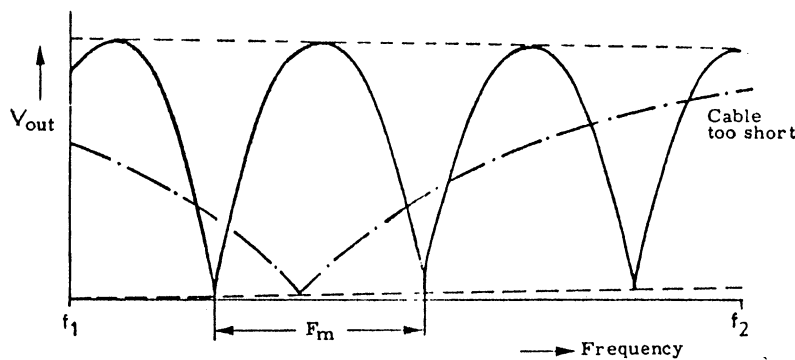

Fig. 2-2 Display on screen
2.4.9, measuring the magnitude of reflection coefficient); as the deflection voltage is synchronous with the sweep voltage, a stationary pattern is displayed on the screen (Fig. 2-2). The extreme values of V_{out} are no longer fully attained with increasing frequency, because of the cable losses. The distance F_m between two minima (maxima) depends only on the cable length L or echo delay t_e and is therefore constant:
The extension cable must be long enough for at least two voltage maxima or minima to be displayed on the screen; otherwise no evaluation for VSWR would be possible (Fig. 2-2). Taking this condition into account, select the cable length according to the required spacing or number of maxima, using the above formulas.